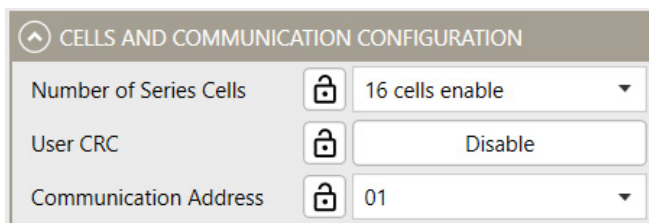

Figure 10: Cell and Communication Configuration
6. Figure 10 shows how to configure the cells and communication.